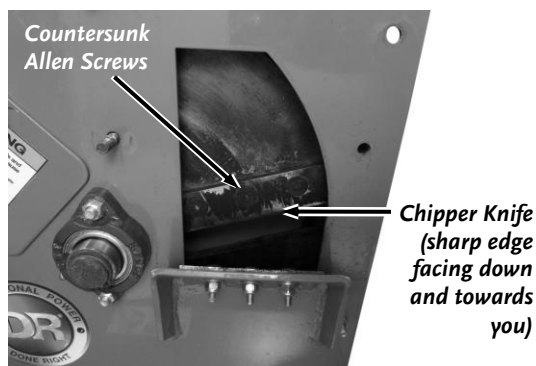

Figure 34
10. Install a new or sharpened Knife as shown with the Knife edge facing down and towards you (**Figure 34**). Install the Allen screws and Lock Nuts by hand (use the new hardware supplied with a new Knife kit) to hold the Knife to the Flywheel.